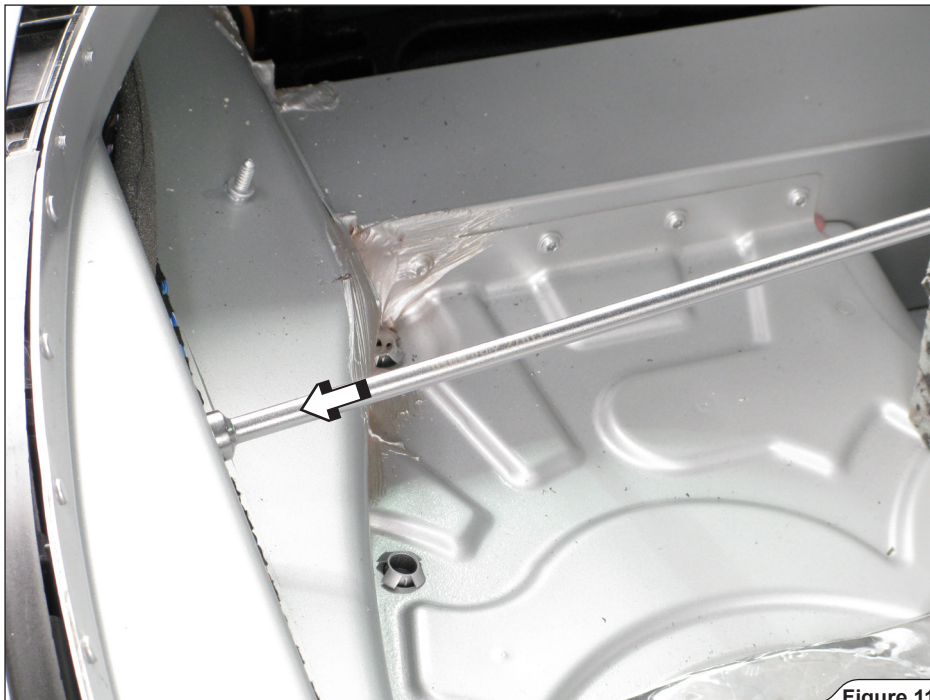

Figure 11
9. Unscrew the marked bumper nut and carefully undo the bumper clips on both sides of the vehicle. Remove the bumper off the vehicle (**Figure 11, 12**).